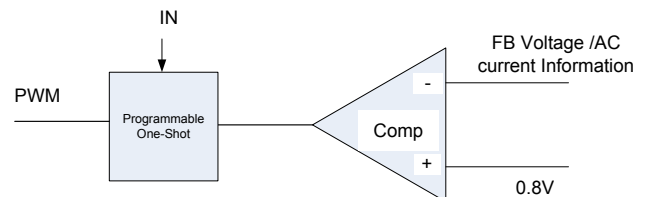

Figure 2. Simplified Control Schematic of AOZ2261AQI-10
The simplified control schematic is shown in Figure 2. The high-side switch on-time is determined solely by a one-shot whose pulse width can be programmed by one external resistor and is inversely proportional to input voltage (IN). The one-shot is triggered when the internal 0.8V is higher than the combined information of FB voltage and the AC current information of inductor, which is processed and obtained through the sensed lower-side MOSFET current once it turns-on. The added AC current information can help the stability of constant-on time control even with pure ceramic output capacitors, which have very low ESR. The AC current information has no DC offset, which does not cause offset with output load change, which is fundamentally different from other  $V^2$  constant-on time control schemes.